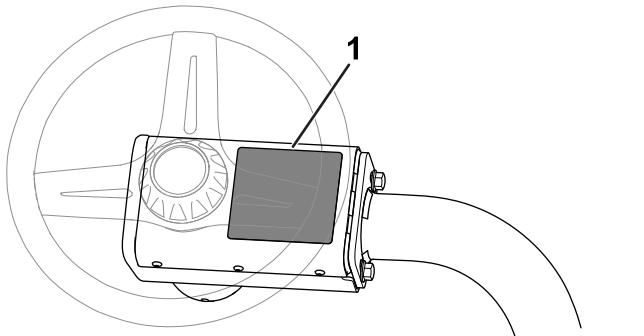

Figure 12
- **CE warning decal:** Apply the CE warning decal (Part Number 139-8321) over the existing warning decal (Part Number 139-8320) on the steering-wheel cover; refer to Figure 12.